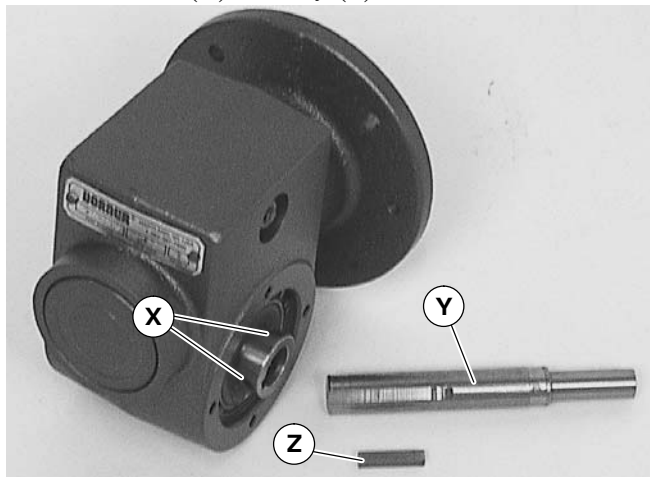

Figure 20
9. Loosen six (6) set screws (X of Figure 20). Remove drive shaft (Y) and key (Z).
11. Replace the original shaft (Y Figure 20) and key (Z) into new gear reducer. Tighten set screws to 3 N-m.